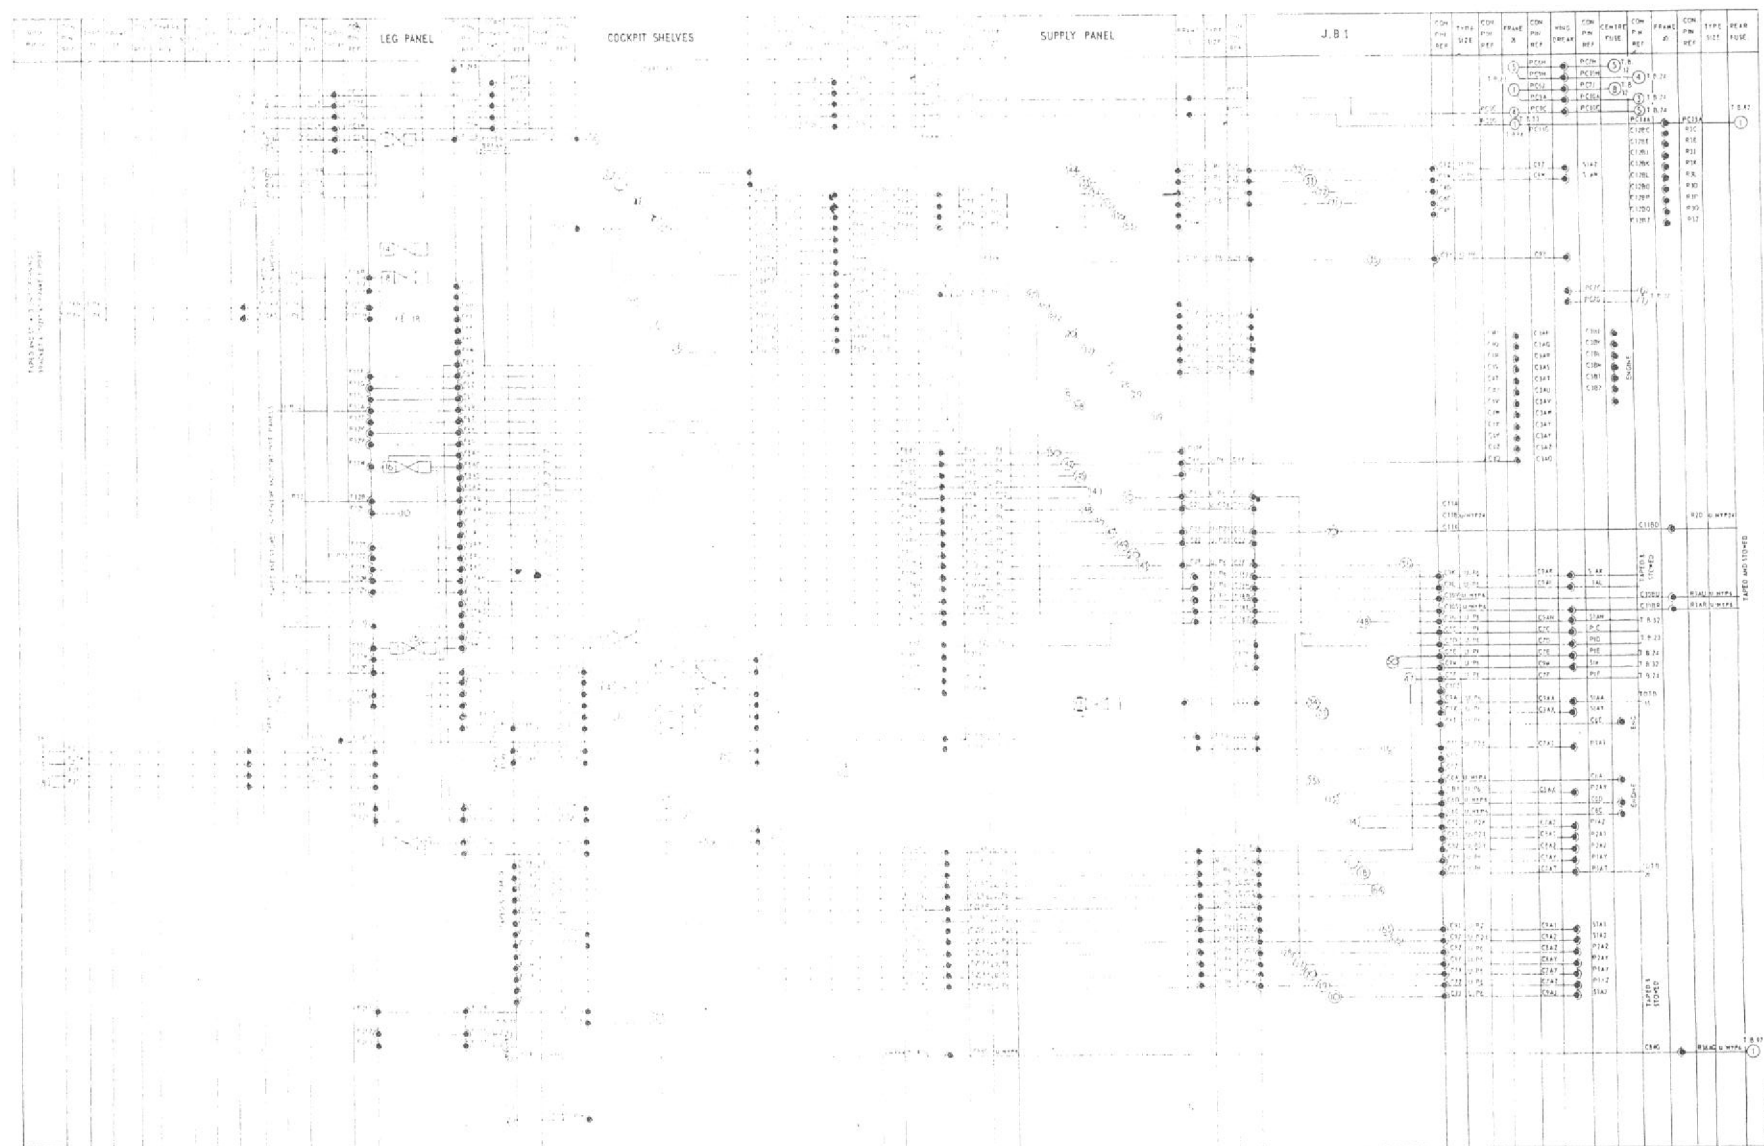

Fig.4 Available spare wiring
54. Fig.4, 5 and 6 show the spare cables available in the cable assemblies. These are provided for future modifications and additions to the existing installations, but may also be used, in an emergency, to replace a defective cable. Under this